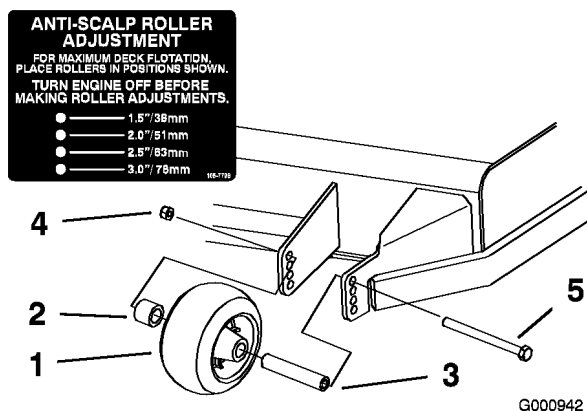
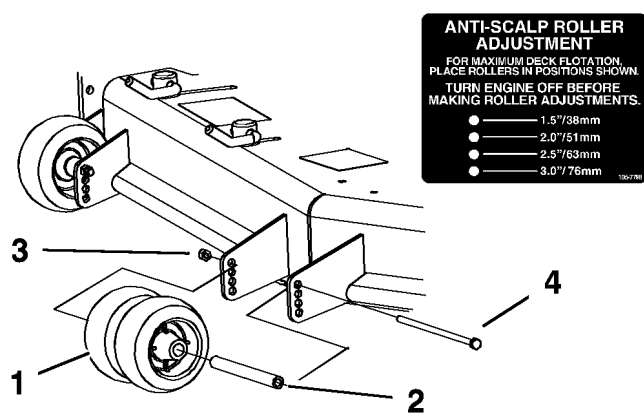
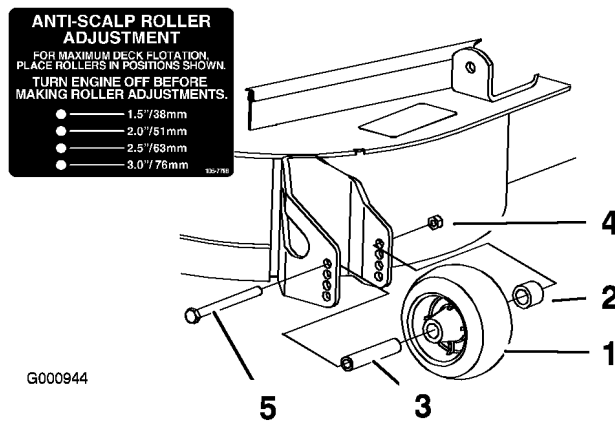

Figure 20
Figure 21
Figure 22
- After adjusting the height-of-cut, adjust the rollers by removing the flange nut, bushing, spacer, and bolt (Figure 20 , Figure 21 and Figure 22).
Note: The two middle rollers will not have a spacer (Figure 21).
- Install the flange nut bushing, spacer, and bolt. Torque to 40-45 ft-lb (54-61 N•m) (Figure 20 , Figure 21 and Figure 22).